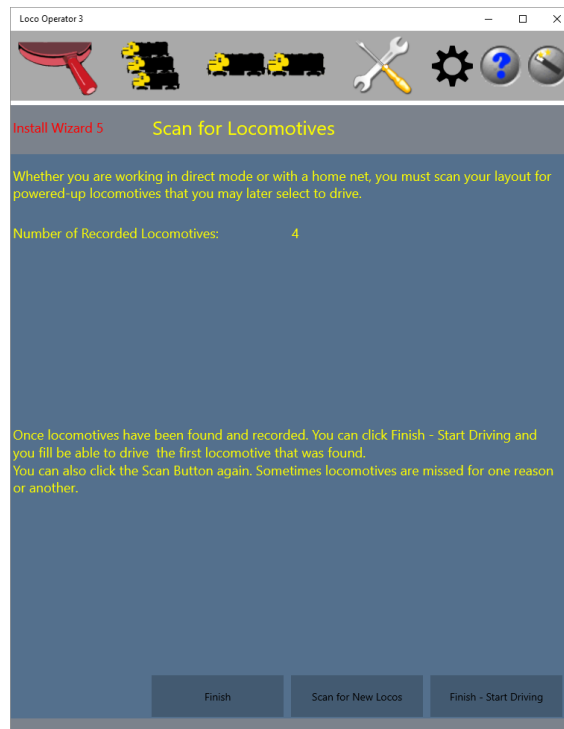

Figure 7 Install Wizard Page 5 after Scanning for Locomotives
- (5) Install Wizard 5 Screen now shows four locomotives recorded as Figure 7. You can now click Finish-Start Driving and you will be taken straight to the Drive Screen with the first locomotive selected.